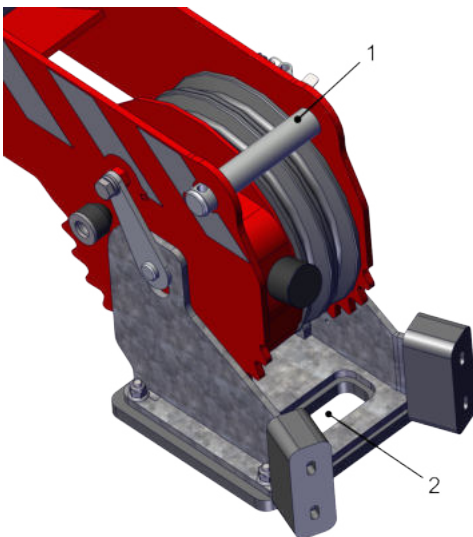

Figure 4.12 Positioning the cable
5. Run the cable over the winch head. First remove the upper pin (1) from the winch head. Place the cable over the middle sheave and fit the upper pin again. Position the cable properly through the winch stop (see Figure 4.12).